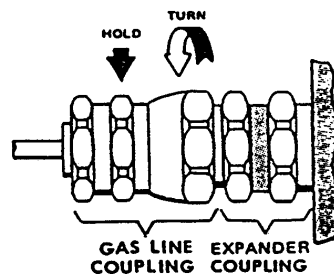

Figure 16 Disconnect the Gas Line from the Cold Head
2. After breaking the connection, hold the coupling adapter with one wrench. Remove the gas line coupling from the cold head coupling with the second wrench. See Figure 16. Remove both gas lines from the cold head.